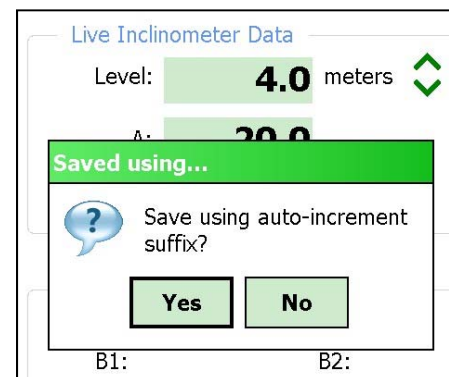

Figure 34 - Auto Increment Save
- If **Yes** is selected, you then will be given the choice of saving with the auto-increment suffix on the standard filename (see Figure 34). Selecting Yes again causes the save operation to be carried out using a filename of the form: *[Hole\_Name][3 digit AutoIncr\_Suffix].GKN*
12. If “Yes” (see Figure 33) is selected, then another dialog box will be displayed giving the choice of saving with the auto-increment suffix on the standard filename (see Figure 34). Selecting “Yes” again causes the save operation to be carried out using a filename of the form: *[Hole\_Name][3 digit AutoIncr\_Suffix].GKN*